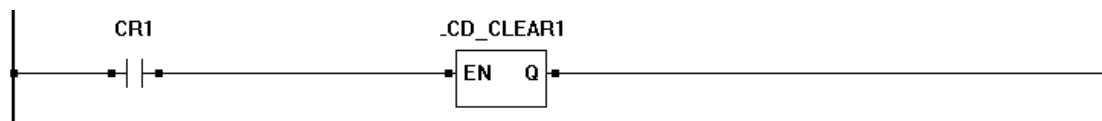

Figure 9-3
To clear the LCD display (blank all rows and columns), the LCD\_CLEAR function block is used. The LCD\_CLEAR will clear the display when it senses a rising edge on it's enable input (EN). Figure 9-3 shows an example program using the LCD\_CLEAR function block.